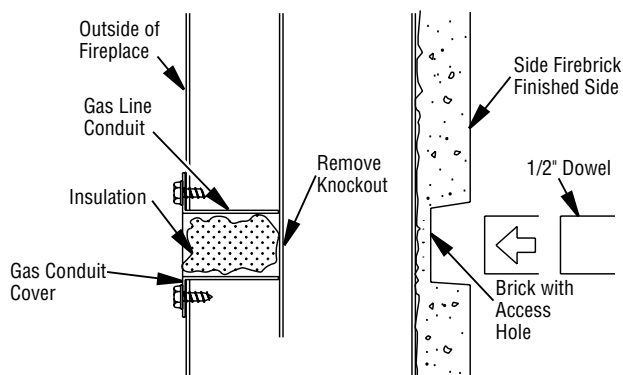

Figure 36 - Gas Line Access
- Remove knockout indentation on refractory or firebrick wall located above refractory hearth floor. Knockout indentation must be firmly tapped with any solid object such as a 1/2" dowel until it is released. Remove fragmented portions of refractory (see Figure 36).